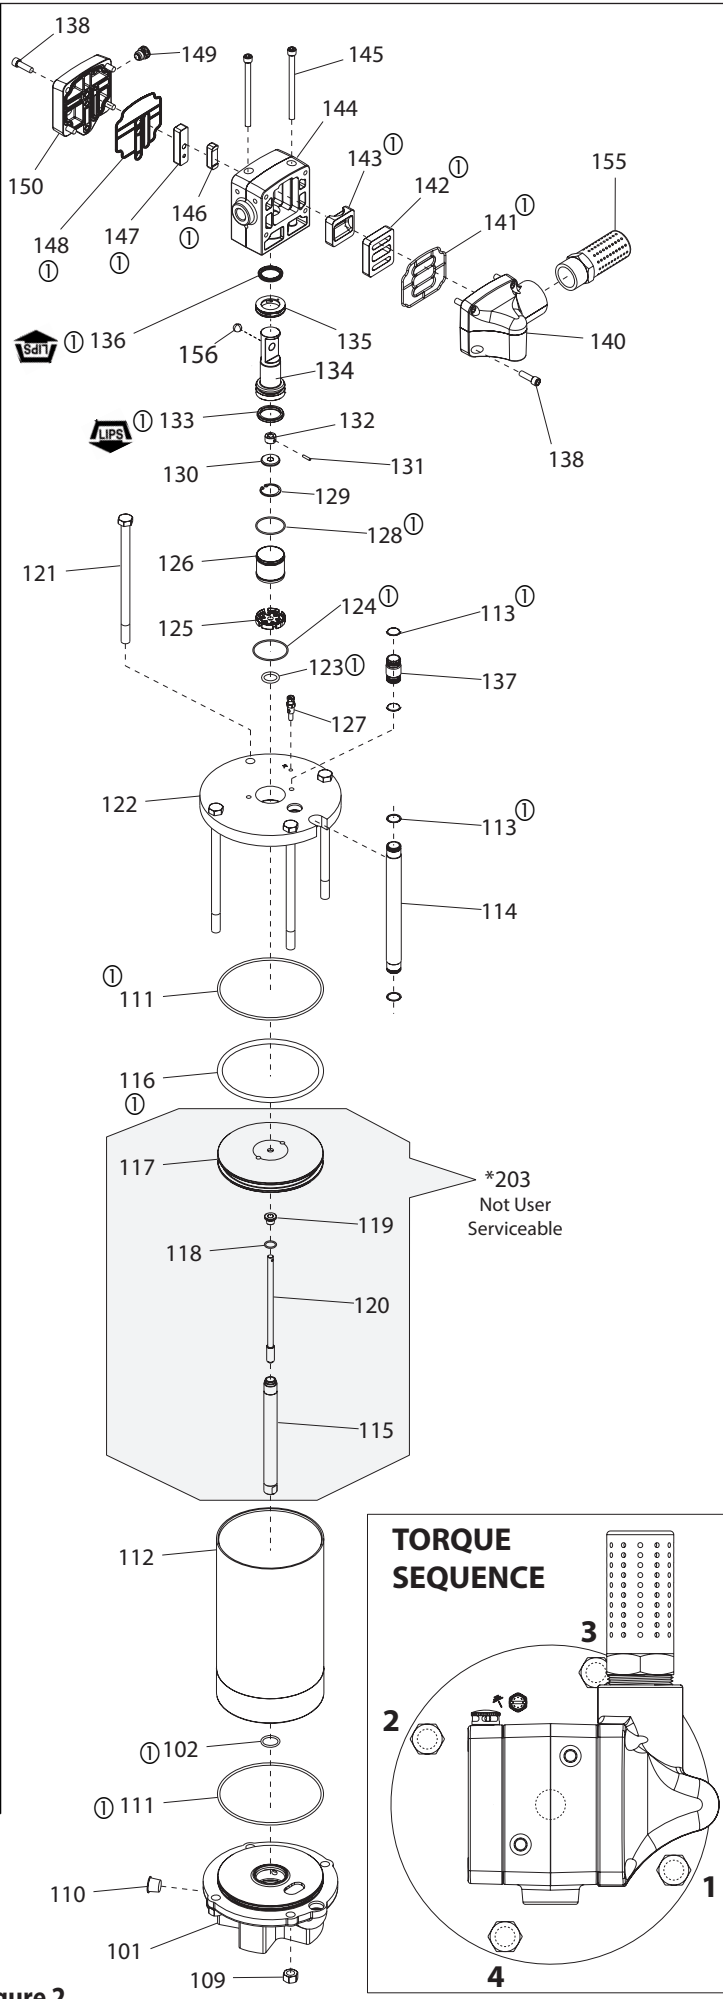

Figure 2
2. For model AF0660-XX, install (151) washer, (152) U-cup, (153) washer, and (154) snap ring into the (101) base assembly. For all other models, install the (102) O-ring into the (101) base assembly.
3. Install the (111) O-ring in the groove on the (101) base assembly.
4. Install the (116) O-ring in the groove on the (117) piston.
5. Push (115) piston rod thru the (101) base assembly, being careful not to damage the lips of the (152) U-cup or the (102) O-ring.
6. Lubricate the inside diameter of the (112) air cylinder and slide it down over the (203) piston assembly and onto the (101) air motor base assembly. (See Figure 2 on Page 2).
7. Align notch in (122) head plate with the port in (101) base assembly and press the (122) head plate down until it is seated against the (112) air cylinder. The (120) trip rod assembly must lead thru the center of the (122) head plate.
8. Assemble the four (121) bolts thru the (122) head plate and the (101) base assembly.
9. Assemble the four (109) nuts to (121) hex head bolts and tighten per specified torque sequence and value.
10. Pull the (120) trip rod assembly as far out of the air motor assembly as possible, slide the (123) O-ring over the (120) trip rod assembly and down into the gland found in the (122) head plate.
11. Slide the (125) cap over the (120) trip rod assembly and down into the bore found in the (122) head plate.
12. Slide the (129) snap ring first and the (130) washer secondly, onto the (120) trip rod assembly.
13. Slide the (132) driver onto the (120) trip rod assembly. Align the hole of the (132) driver with the hole in the (120) trip rod assembly and insert the (131) pin.
14. Assemble the (133) U-cup and (156) rubber ball to the (134) spool. Take note of the (133) U-cup lips should point down towards the (122) head plate.
15. Slide the (134) spool onto the (120) trip rod assembly over the (132) driver and insert the (130) washer behind it. Utilizing snap ring pliers, assemble the (129) snap ring to the internal groove found in the (134) spool. Be certain that the (129) snap ring is fully engaged into the groove. Slide the (134) spool downward into the bore of the (122) head plate nesting on top of the (125) cap.
16. Lubricate the inside diameter of the (126) sleeve and slide it onto the (134) spool and locating it into the (125) cap. Take note that large taper on (126) Sleeve is to locate into (125) Cap.